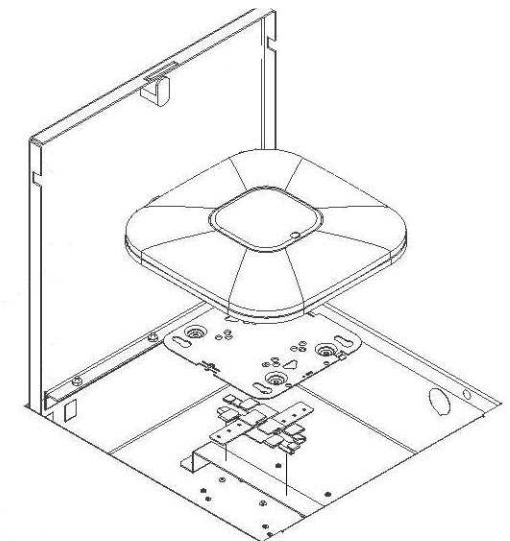

Figure 5 – Exploded door view.
Step 4 – Unlock and open the door. Use the manufacturer's T-Bar mount clip to attach the access point to the T-Bar Section on the mounting plate. An additional mounting plate provided by the manufacturer of the access point may be needed to attach the access point (Figure 5). *Data cable(s) may need to be plugged in to the access point prior to attaching to the mount. Cisco access points use Cisco AIR-AP-BRACKET-2 for 2600/3600 series access points and AIR-AP-BRACKET-1 for 1140/3500 series.*